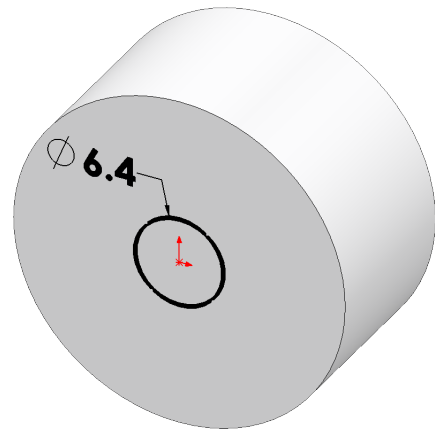

Fig. 6
Step 2. Click **Circle**  (S) on the Sketch toolbar.
Step 3. Sketch circle at Origin , **Fig. 6**.
Step 4. Click **Smart Dimension**  (S) on the Sketch toolbar.
Step 5. Dimension **diameter 6.4**, **Fig. 6**.